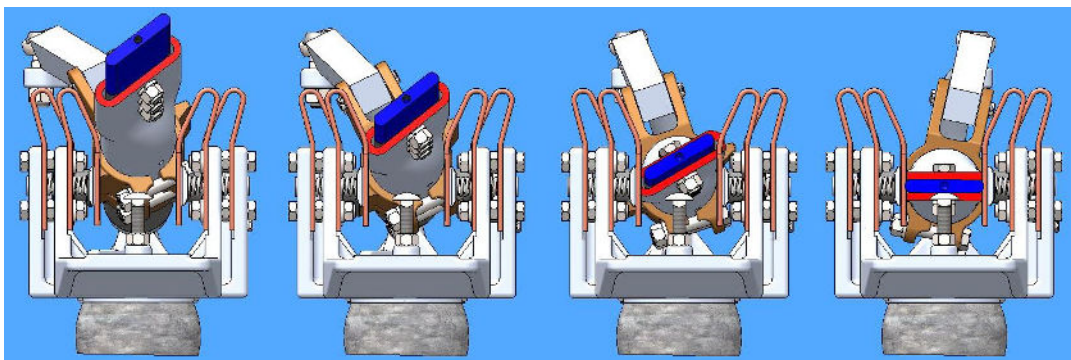

Figure 5: Blade Tip Travel
- 2.1.3. The blade tip must come down into the center of the jaw without dragging on either side as shown in **Figure 5**. Use shims on the jaw insulator to tilt the insulator if needed to ensure this condition.